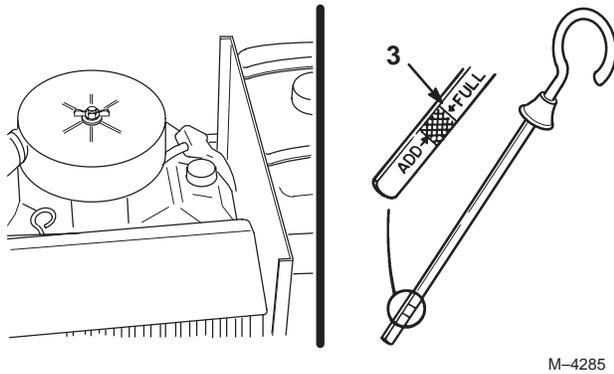

Figure 17
- Slowly pour approximately 80% of the specified amount of oil into the filler tube (Fig. 17). Now check the oil level; refer to Checking the Engine Oil Level, page 22. Slowly add additional oil to bring to full mark on dipstick.